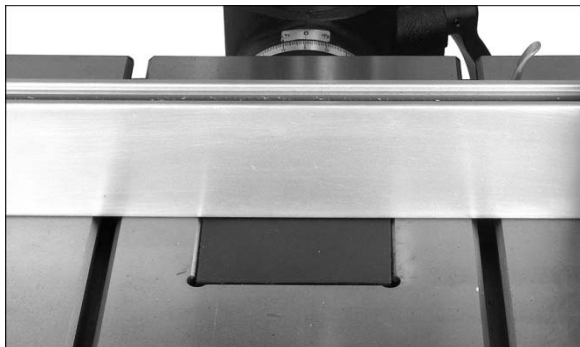

Figure 13
2. Position fence over table insert to use as a level (see Figure 13), and tighten it down.
- Loosen nuts (M) first, then turn set screws (N) as needed until insert is level with table surface. Re-tighten nuts (M) up against table.